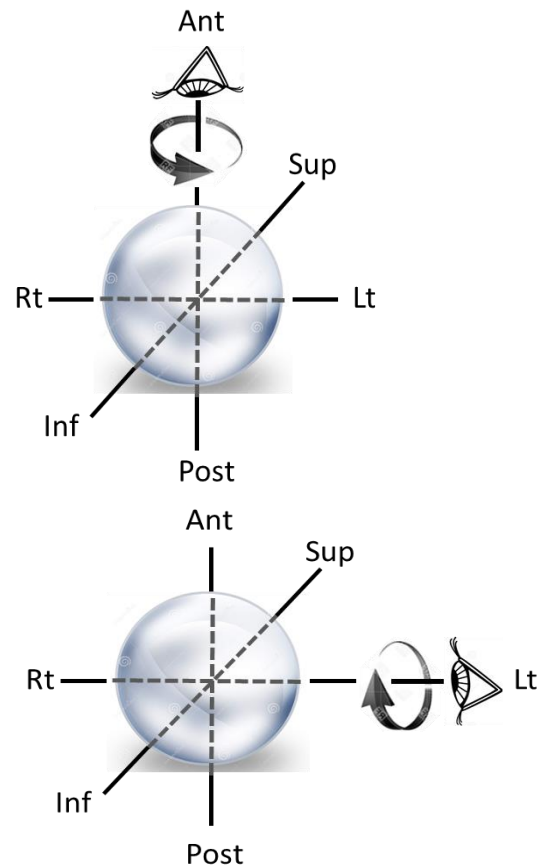

Figure 6. a) Perspective view A-P, rotate phantom 90° CW. b) Perspective view left-to-right, rotate phantom 90° CW again.
2. *First* - Physically rotate the phantom 90° COUNTER-CLOCKWISE as viewed from a perspective looking from subject's ANTERIOR-TO-POSTERIOR (see Figure 6).
3. *Second* - Physically rotate the phantom 90° CLOCKWISE as viewed from a perspective looking from subject's LEFT-TO-RIGHT (see Figure 6). The phantom should now look as in Figure a. Acquire survey scan that includes SAGITTAL slices through phantom.